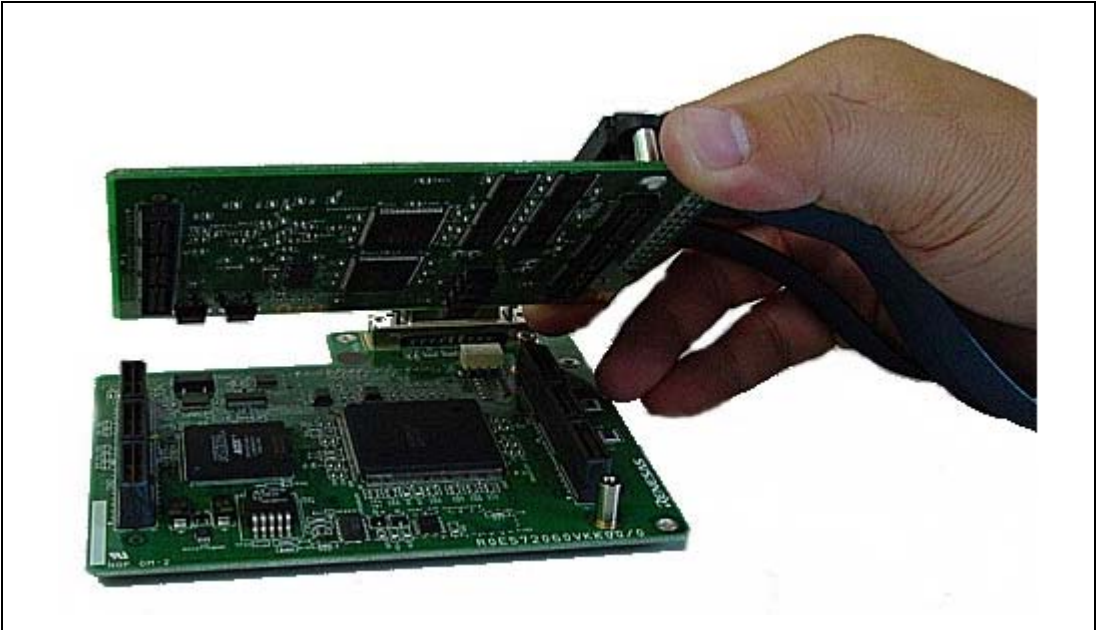

Figure 2.13 Connecting the External Bus Trace Unit to the EV-chip Unit
- When the external bus trace unit is used with the EV-chip unit, connect the external bus trace unit to the EV-chip unit as shown in figure 2.13.